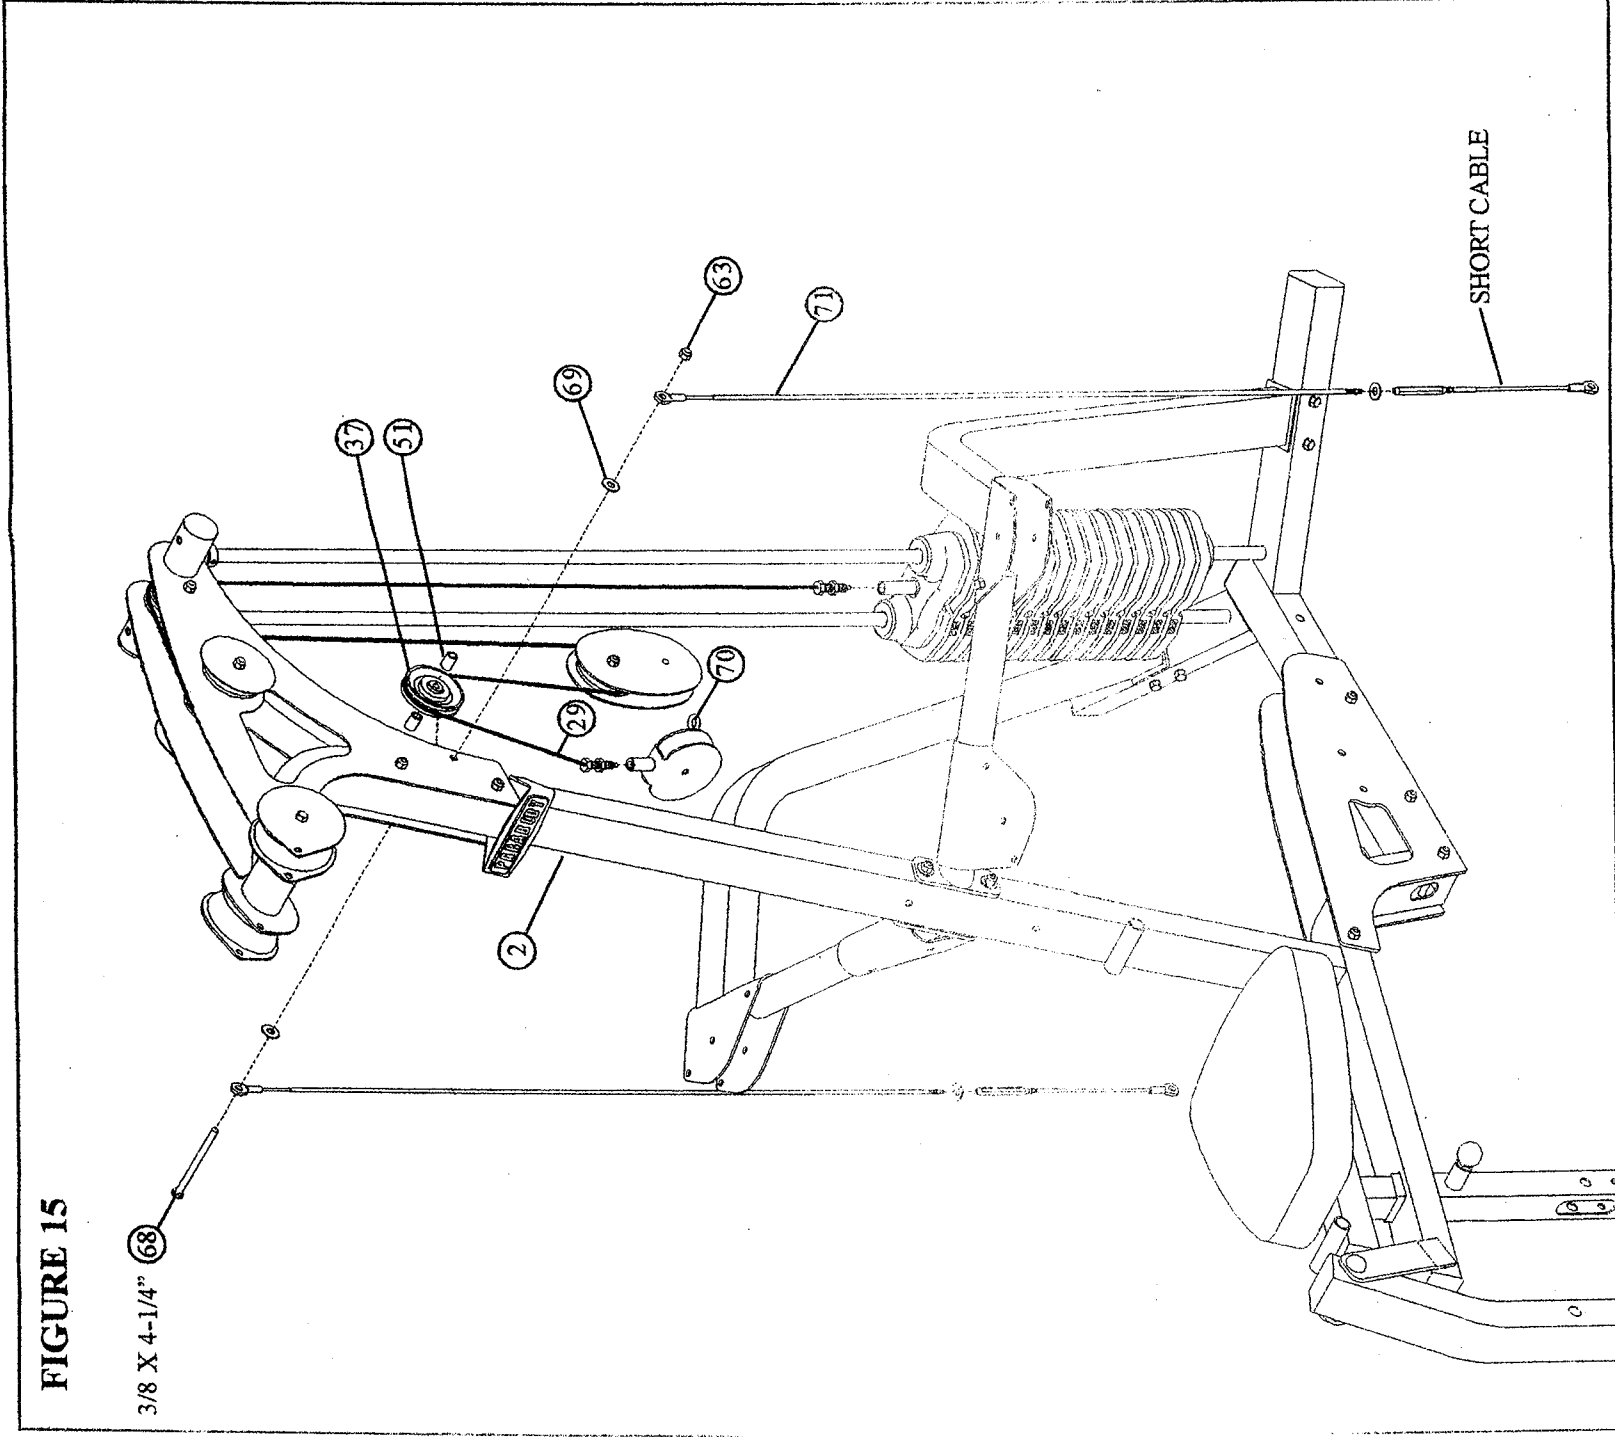

FIGURE 15
- Assemble one 3-1/2" PULLEY (37) to the BOOM PLATES (14 & 15) using one 3/8 X 4-1/4" BOLT (68), two 3/8" SAE WASHERS (69), two GUIDE CABLES (71), two 3/8 X 1" SPACERS (51) and one 3/8" LOCK NUT (63). See FIGURE 15. (Note: Loop the WEIGHT STACK CABLE around the PULLEY prior to assembling to the BOOM PLATES.)
- Screw the short threaded end of the WEIGHT STACK CABLE (29) into the end of the PULLEY BRACKET (9). See FIGURE 15.
- Disassemble the SHORT CABLE and the turnbuckle on the GUIDE CABLE (71) as shown in FIGURE 15. The SHORT CABLE will be reassembled later.
- Route the BOOM CABLE (32) over the V-GROOVE PULLEY (37) and the 3-1/2" PULLEY (37) on the LEFT BOOM PLATE (15) and over the 3-1/2" PULLEY (37) on the RIGHT BOOM PLATE (14) and over the V-GROOVE PULLEY (39) as shown in STEP 16.
- SECURELY assemble two 2" NYLON SPACERS (56) to the V-PULLEY PLATES (12) and the BOOM PLATES (14 & 15) using two 3/8 X 2-3/4" BOLTS (55) and two 3/8" LOCK NUTS (63). See FIGURE 15.
- Assemble one 3-1/2" PULLEY (37) to the PULLEY BRACKET (9) using one 3/8 X 1-3/4" BOLT (53) and one 3/8" LOCK NUT (63) (Note: Loop the BOOM CABLE around the PULLEY prior to assembling the PULLEY BRACKET.)